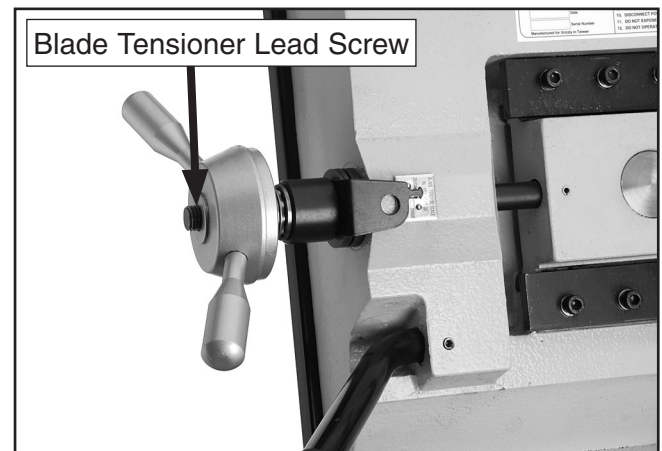

Figure 46. Lubrication point.
1. Lubricate the blade tensioner leadscrew (**Figure 46**) with multi-purpose grease, and apply a coat of high-quality metal protectant such as SLIPIT® on **Page 40** to all unprotected cast iron surfaces.